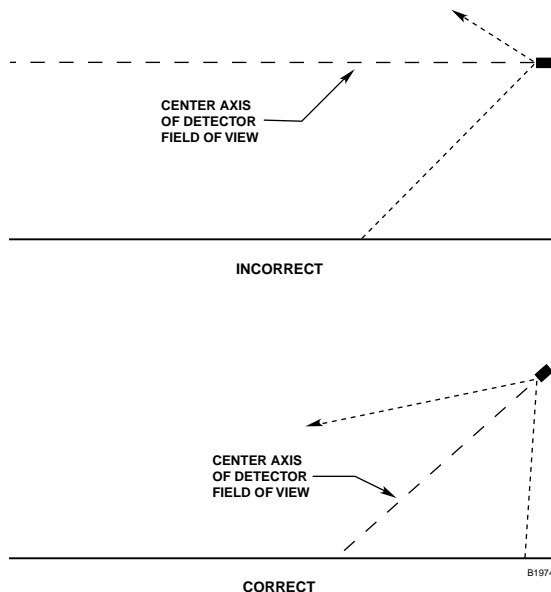

Figure 1—Detector Orientation Relative to Horizon
- For outdoor applications, the detector should be aimed downward at least 10 to 20 degrees to allow lens openings to drain. See Figure 1. The detector should be positioned so that its field of view does not cover areas outside the hazardous area. This will minimize the possibility of false alarms caused by activities outside the area requiring protection.
- Figure 1 – Detector Orientation Relative to Horizon